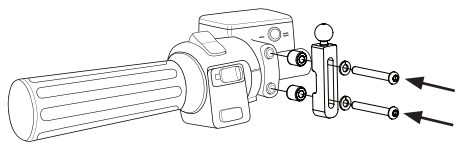

Figure 3
4. Using the  $5/32$ " Hex Key, fasten the *Control Mount Base* to the *Control Assembly* using the supplied *Control Spacers*, *Control Screws* and *Control Lock Washers* as shown in **Figure 3**.